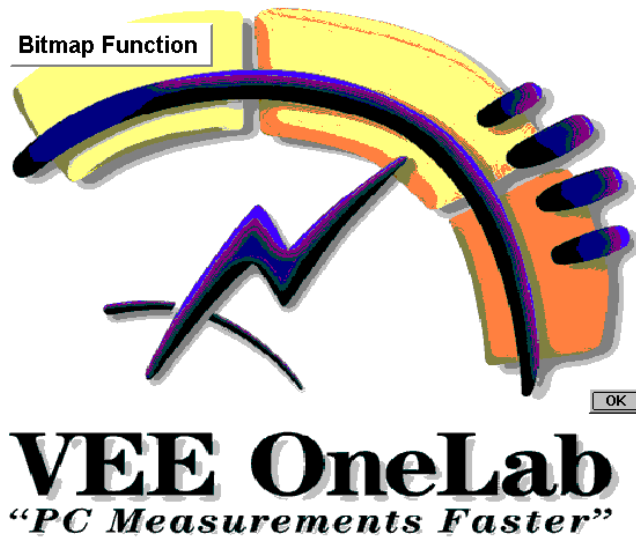

Figure 8-22. The Bitmap Function
8. Go to the `Main` window. Click `Device` \Rightarrow `Call`, then click `Select Function` in the object menu, and choose `Bitmap`. Run the program. The pop-up box should look like Figure 8-22.